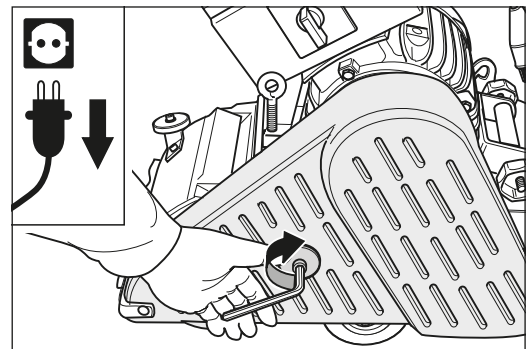

Fig. 100 Close the belt guard.
- 8 Close the belt guard (fig. 100).